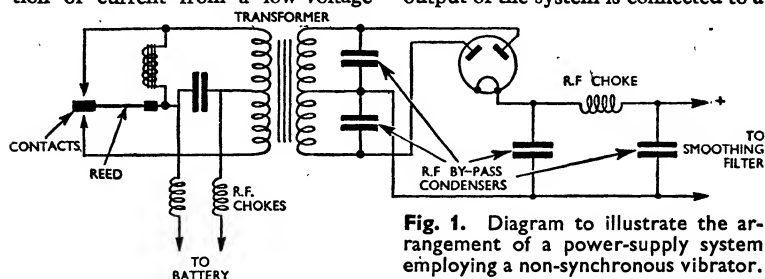

Fig. 1. Diagram to illustrate the arrangement of a power-supply system employing a non-synchronous vibrator.
*Non-synchronous* vibrator power-supply systems incorporate a metal rectifier or valve, while *synchronous* types automatically reverse the transformer secondary connections, thus providing rectification. Fig. 1 shows the circuit diagram of a non-synchronous vibrator power-supply